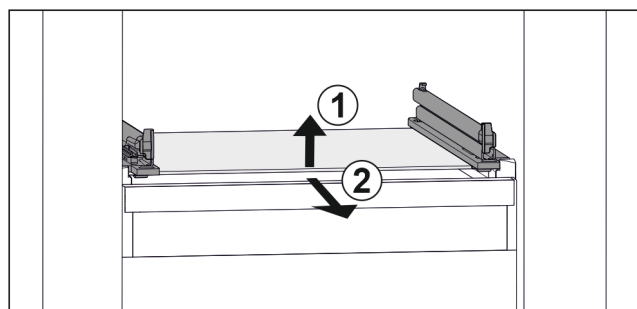

Fig. 133 Example illustration of glass shelf
- Lift glass shelf at the front. Fig. 133 (1)
- Take out glass shelf to the front. Fig. 133 (2)